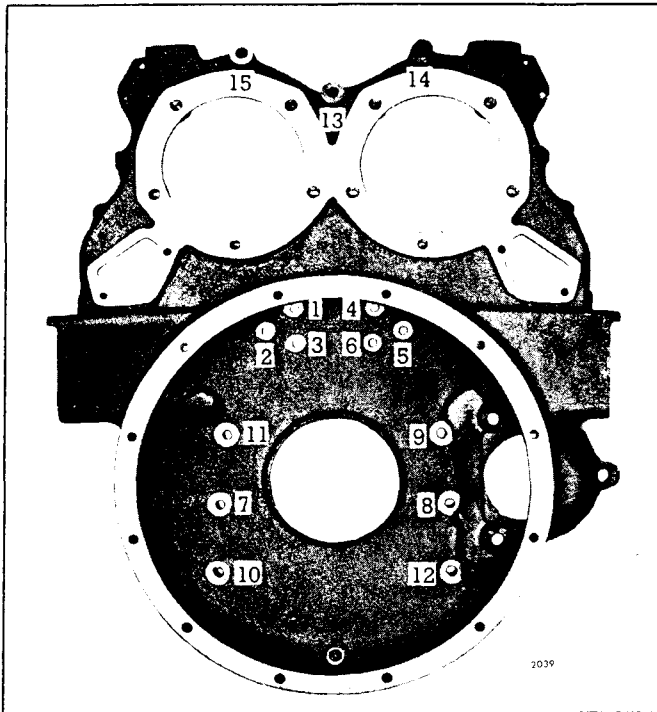
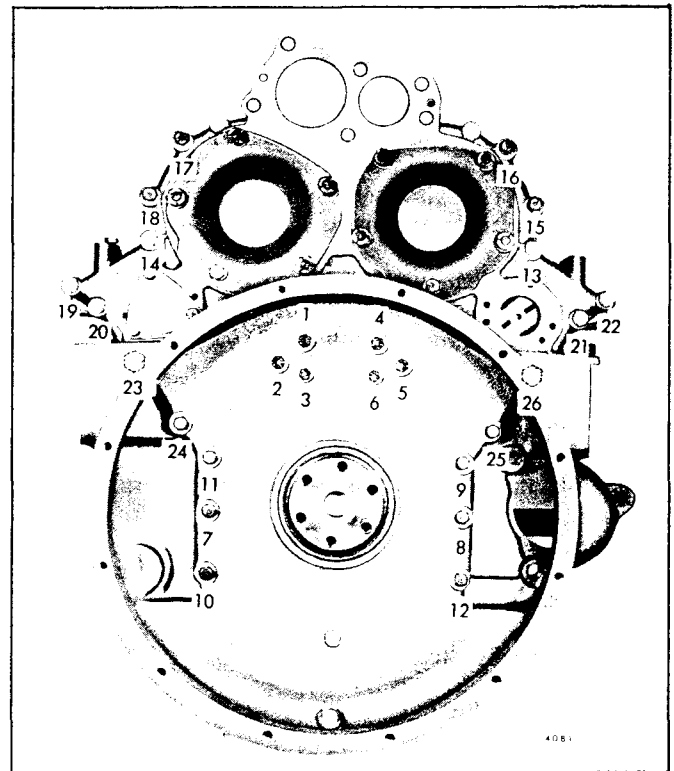

Fig. 3 - Flywheel Housing Bolt Tightening Sequence (Operation 1)--In-Line Engine
Fig. 4 - Flywheel Housing Bolt Tightening Sequence (Operation 1)--6V Engine
NOTE: If the engine is equipped with a clutch housing, do not install the six bolts numbered 7 through 12 (Fig. 3) until the clutch housing is installed.
8. On an In-line right hand rotation engine, start at No. 1 (No. 4 on left hand rotation engine) and draw the bolts up snug in the sequence shown in Fig. 3. On V engines, start at No. 4 on a right-hand rotation engine (No. 1 on a left-hand rotation engine) and draw the bolts up snug in the sequence shown in Fig. 4 and 5.